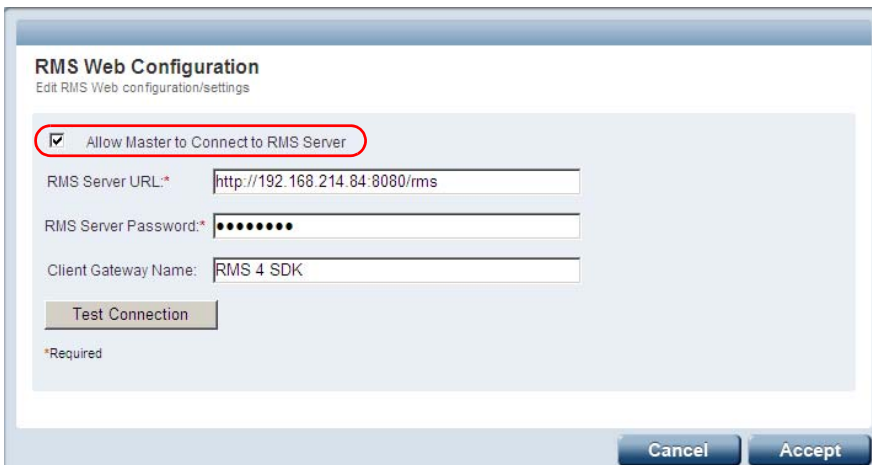

FIG. 159 Configuration > RMS Web Configuration page
5. This opens the *RMS Web Configuration* page (FIG. 159):